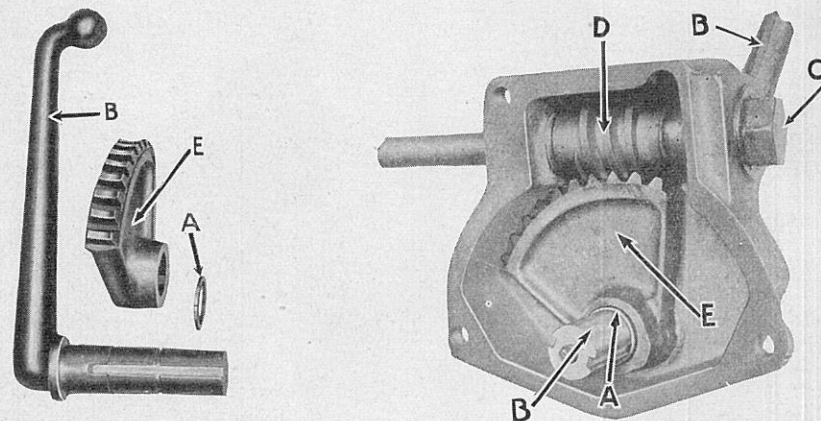

Fig. 49A
4. The steering worm is enclosed in a metal case bolted to the tractor frame through which an oil hole allows oil from the transmission case to enter. The steering gears and worm are thus automatically lubricated. In case the hub of worm gear, D, Fig. 49A, becomes worn, take up the worn parts by tightening up jam nut C, Fig. 49A. This will remove end play.
To remove steering gears: Back off jam nut at C, Fig. 49A. Drive or pull out steering shaft from cover. Lift out worm D, Fig. 49A.
On arm B, Fig. 49A, at A there is a ring left in shaft at A to hold sector in place. Pry out this ring with screw driver. Remove sector E.